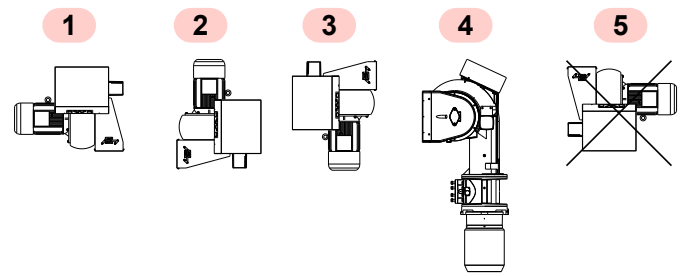

Fig. 11
- The burner is set up to operate only in positions **1**, **2**, **3** and **4** (Fig. 11).